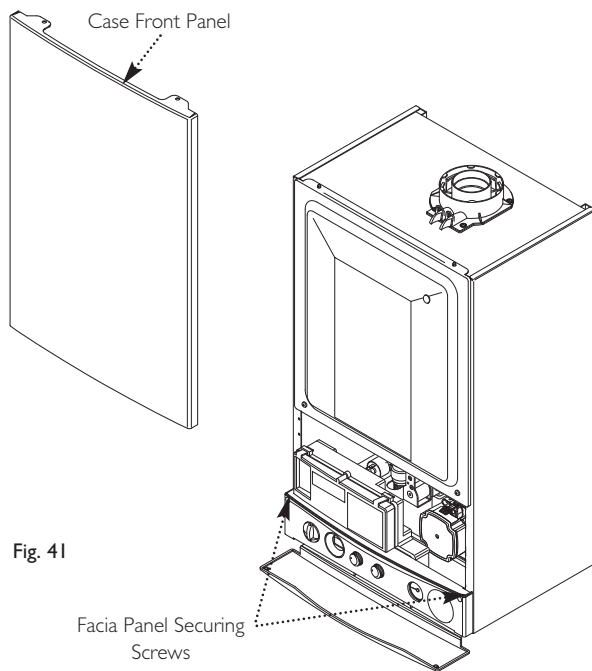

Fig. 41
3. Slacken the screws securing the fascia panel. Lift the outercase panel so that its securing tabs are clear of the fascia. Remove the panel, allowing the fascia to hinge down (Fig. 41).